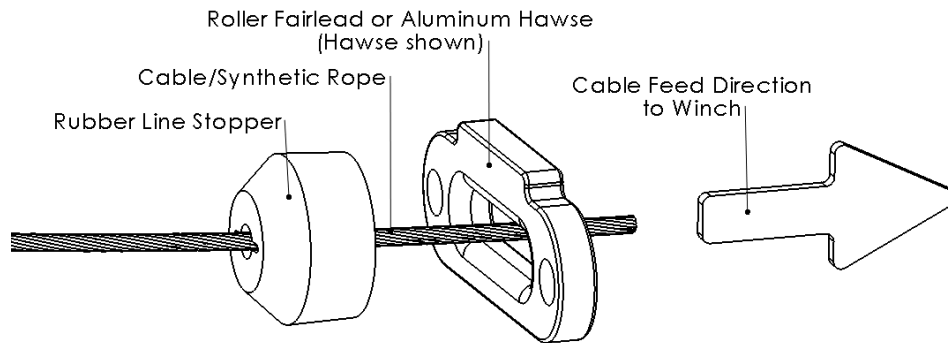

Figure 3
6. Use the provided M8 Hardware to mount up through your machine and mounting plates and into your winch as shown in Figure 3.
8. Pass the cable through the Rubber Line Stopper and then through the Roller Fairlead or Aluminum Hawse. Leave the cable unattached at this point. After the winch is fully installed, reattach the cable to the winch. Leave the cable unwound as it will be wound under load to properly set the cable. See Figure 3.